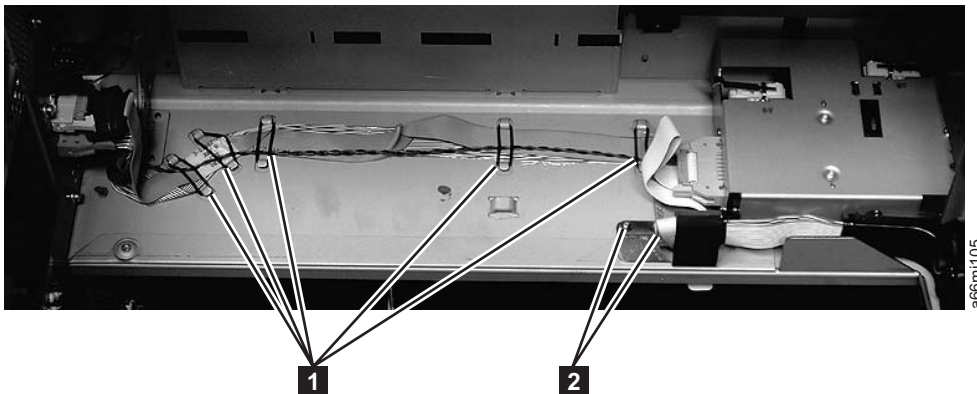

Figure 8-71. Cable assembly from the Operator Control Panel to the Backplane Connector Board
- a. Remove the cable retainers (see **1** in Figure 8-71).
- b. Remove the 2 screws from under the cable guide (see **2** in Figure 8-71) near the I/O Station lock assembly.